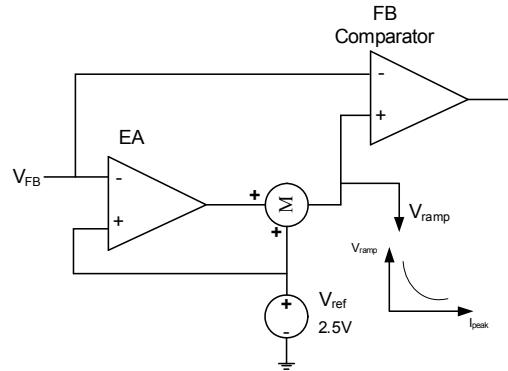

Figure 5: EA and Ramp Compensation
To improve load regulation, the MP155 implements an error amplifier (EA) compensation function (Figure 5). The MP155 samples the feedback voltage 6 μ s after the MOSFET turns off. EA compensation regulates the 2.5V reference voltage with the load, thus improving the power module regulation.
An internal ramp compensation circuit precisely maintains the output voltage. An additional exponential voltage sinking source pulls down the feedback comparator’s reference voltage as shown in Figure 5. The ramp compensation is relative to the load conditions: Under full-load conditions, the compensation is ~1mV/ μ s; with a decreasing load, the compensation increases exponentially.